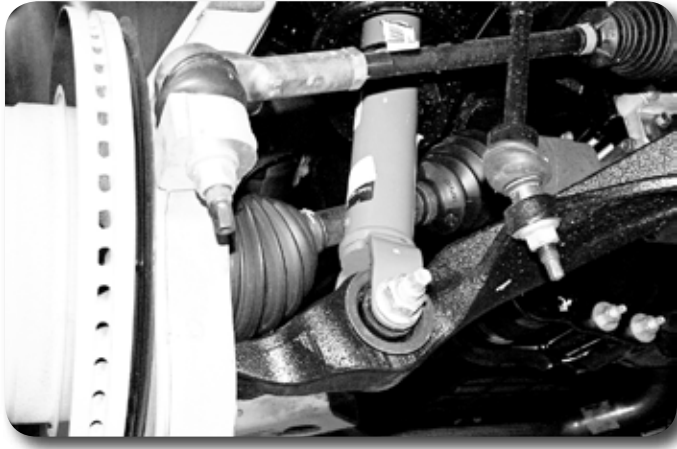

Figure 2
9. Remove the lower strut bolt and nut. Fig 2